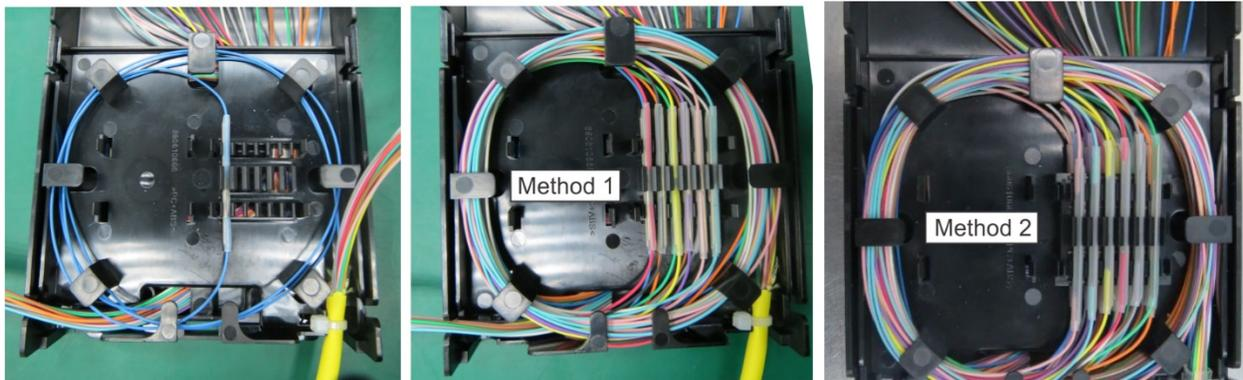

Figure 6. Splice and Route Cable
3. Repeat operation for remaining fibers in bundle no. 1 (Figure 6). Go to step 7 if 12f cassette is being used.
4. If using Method 1, install the sleeve holder and proceed to step 5 (Figure 6, Method 1).
5. If using Method 2, install the sleeve holder and repeat step 4.1 for fiber no. 13-24. Then go to step 7 (Figure 6, Method 2).